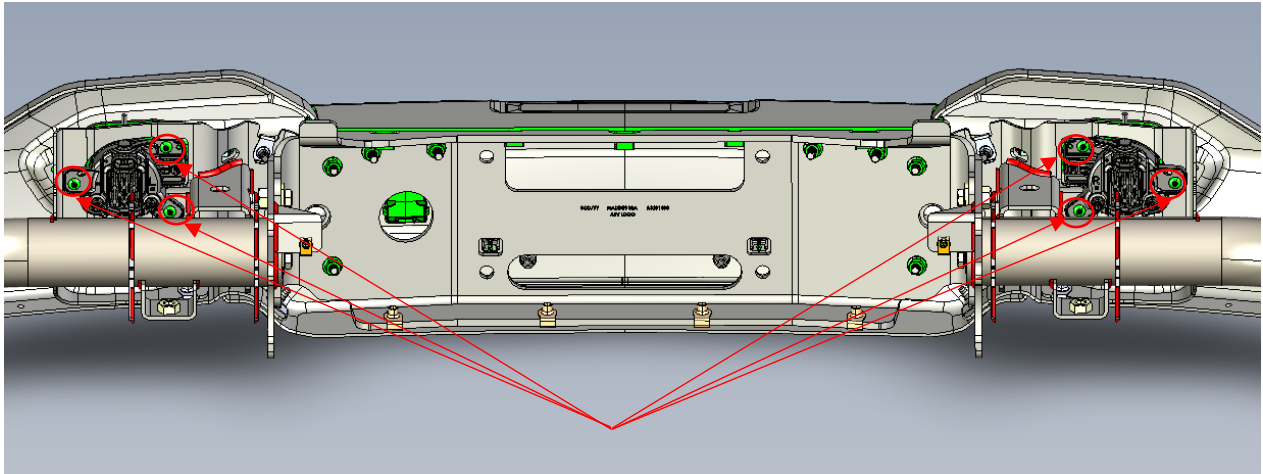

Figure 10 – Backside of AEV Chevy Front Bumper
- Using same 6 bolts, re-install factory fog lamps in AEV front bumper – Fig. 10